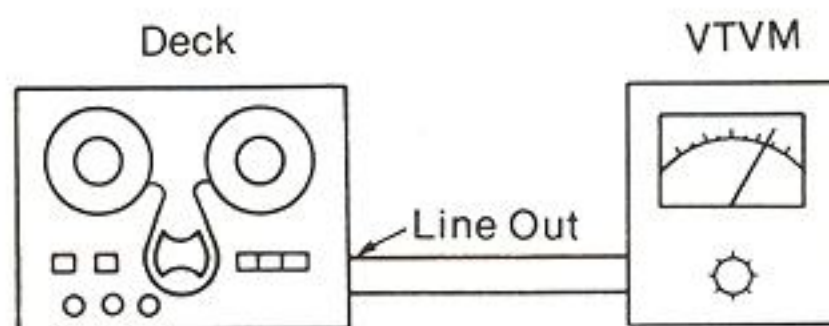

Fig. 29
- (1) Set the head selector to the 2-track position.
- (2) As shown in figure 29, connect a VTVM's to the line-output jacks.
- (3) Set to the 19 cm/s tape speed.
- (4) Use 16 kHz position (for azimuth adjustment) in test tape QZZOF190EX.
- (1) In the condition shown in figure 29, playback test tape QZZOF190EX.
- (1) In the condition shown in figure 29, playback test tape QZZOF190EX, and adjust the tilt-adjustment screw (D) so that output becomes maximum.